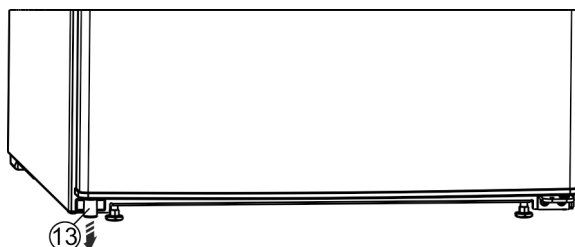

Fig. 12 *
- Remove the spacer Fig. 12 (13) from under the left-hand side of the door.*